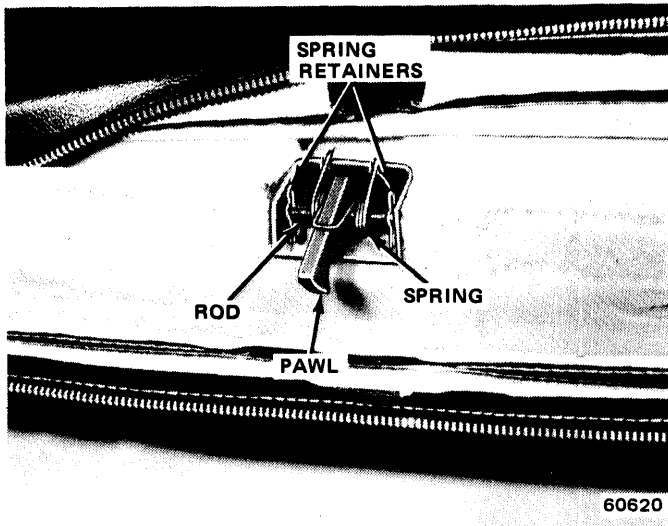

Fig. 19-3 Tilt Lock Pawl Assembly
- (1) Remove forward tilting seat back.
- (2) Remove screw attaching release handle-to-latching rod using Torx Bit Tool J-25359-02. Remove handle.
- (3) Remove screws attaching plastic bumpers using Torx Bit Tool J-25359-02. Remove bumpers.
- (4) Unzip upholstery and pull back.
- (5) Remove spring retainers attaching latching rod (fig. 19-3).
- (6) Remove rod, pawl, and spring from seat.